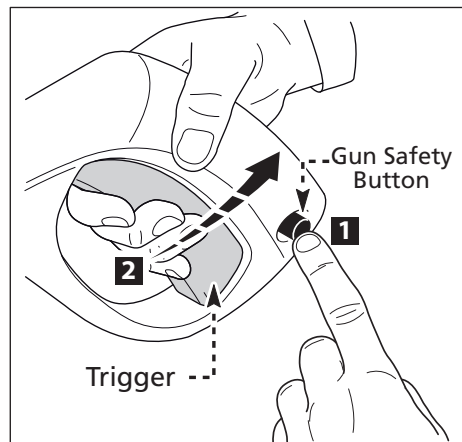

Fig. 7
- To lock the trigger of the spray gun aim the gun away from you and push the lock button from right to left, (**Fig. 7**), after doing so, squeeze or pull the trigger to make sure it is locked and will not move. Get in the habit of leaving the lock button in the “locked” position when the power washer is not in use. This ensures the gun is in “safe” mode until it is ready for use.